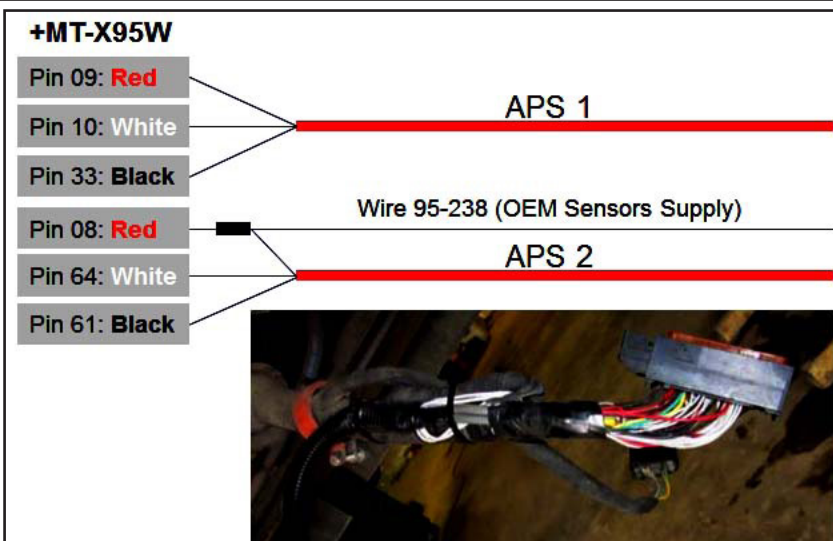

Figure 34 - Positions to be Used for APS 1 and APS 2 Cable Segment Connections
- 2.21. Slide in the two heat shrink tubing segments provided with the front to back cable wire kit over the end of each APS cable segment. Use a heat gun to shrink the tubing at the extremity of each APS cable segment. Insert the terminals from the front-to-back cable into the correct ECM connector positions. Use the wire color and wire label as identification. For APS 1, use positions 9, 10 and 33. For APS 2, use positions 61 and 64 to install five of the six new wires of the front-to-back cable (see Figure 34).